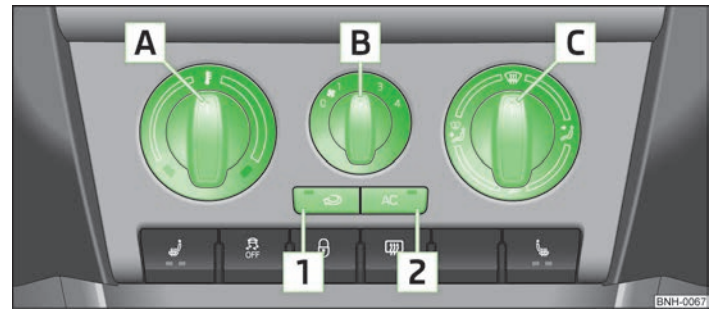

Fig. 60 The air conditioning system: Control elements
The cooling system only operates if the button **AC** **Z** » Fig. 60 on page 62 is pressed, and the following conditions are met:
- › Turn the control dial **A** » Fig. 60 to the right to increase the temperature.
- › Turn the blower switch **B** » Fig. 60 into one of the positions, 1 to 4, to switch the blower on.
- › The direction of the inlet air flow is controlled with air distribution regulator **C** » Fig. 60 » page 60.
- › Press the button **AC** **Z** » Fig. 60 and the warning light in the button illuminates.
- Controls **A** » Fig. 60 on page 62, **B**, **C** and buttons **1** and **2**.
- Press the button **1** » Fig. 60 on page 62 and the warning light in the button illuminates.
- Press the button **1** » Fig. 60 on page 62 again - the warning light in the button goes out.
Recirculated air mode is switched off automatically if the air distribution control **C** » Fig. 60 on page 62 is turned to position . Recirculated air mode can be switched on again from this setting by repeatedly pressing the button .